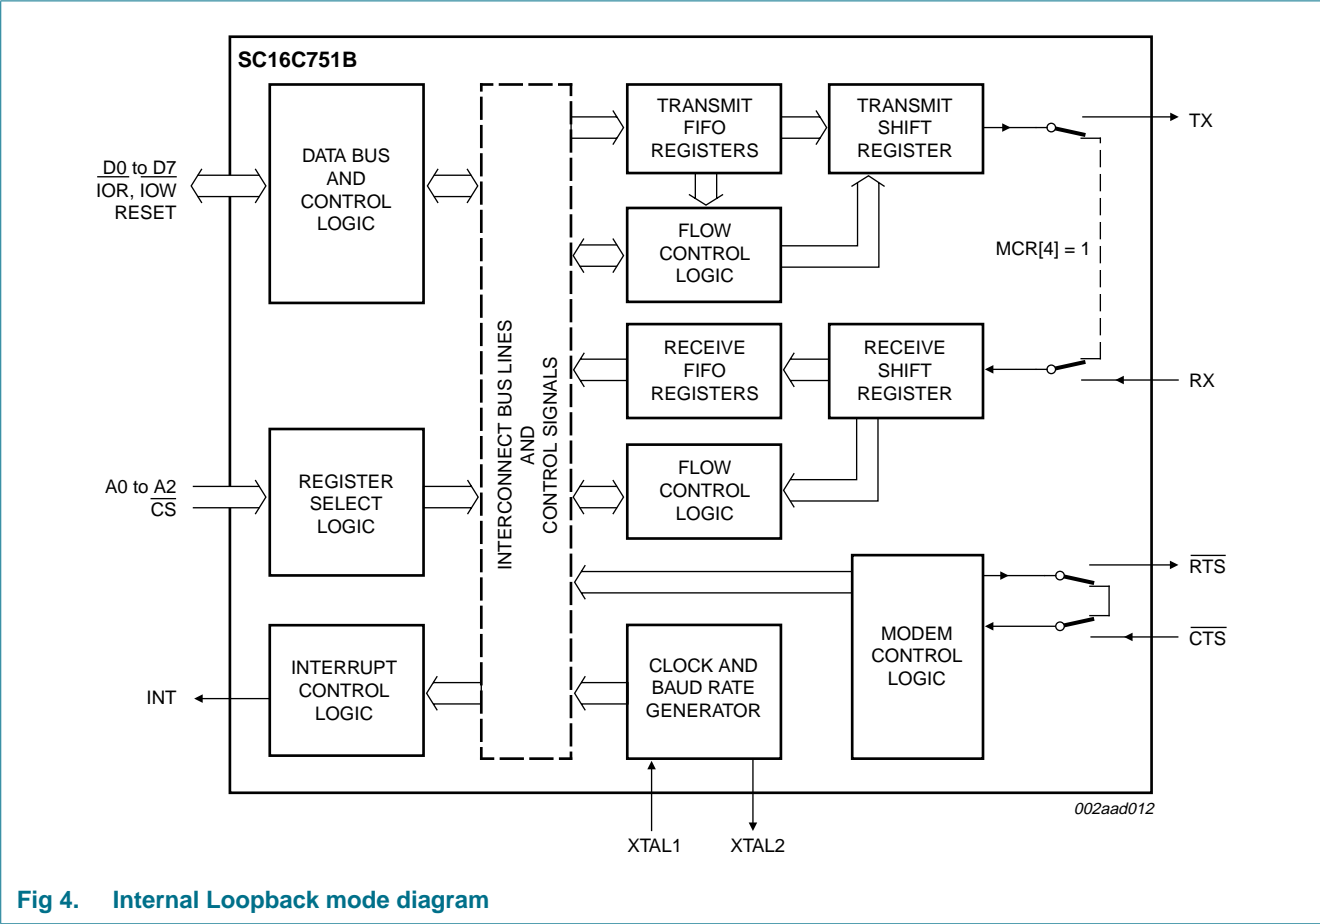

Fig 4. Internal Loopback mode diagram
The internal loopback capability allows on-board diagnostics. In the Loopback mode, the normal modem interface pins are disconnected and reconfigured for loopback internally. MCR[3:0] register bits are used for controlling loopback diagnostic testing. The transmitter output (TX) and the receiver input (RX) are disconnected from their associated interface pins, and instead are connected together internally (see Figure 4). The  $\overline{\text{CTS}}$  is disconnected from its normal modem control input pins, and instead is connected internally to  $\overline{\text{RTS}}$ . Loopback test data is entered into the Transmit Holding Register via the user data bus interface, D0 to D7. The transmit UART serializes the data and passes the serial data to the receive UART via the internal loopback connection. The receive UART converts the serial data back into parallel data that is then made available at the user data interface D0 to D7. The user optionally compares the received data to the initial transmitted data for verifying error-free operation of the UART TX/RX circuits.